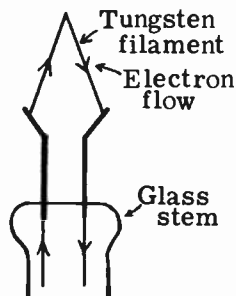

FIG. 6-3. DIRECTLY-HEATED CATHODE.
**THE CATHODE.** The element in the vacuum tube which supplies the electrons is called the CATHODE. The cathode emits or boils off electrons when energy, in the form of heat, is supplied to it. There are two common types of cathodes used in vacuum tubes. They are: (1) the directly heated cathode, and (2) the indirectly heated cathode.
(1) The directly heated cathode. This type is also known by the name FILAMENT-CATHODE. An example of a filament-cathode is illustrated in Fig. 6-3. The heating current is passed directly through the cathode wire which is made of tungsten. The current heats up the cathode wire which then emits electrons from its surface. Directly heated filament-cathodes usually require very little heating power. They are therefore used in tubes designed for portable battery operation because it is necessary to impose as small a drain as possible on the batteries.